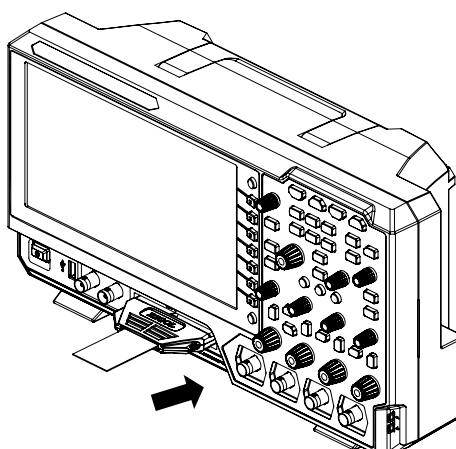

Figure 7 To Connect the Logic Probe
1. Connect the output terminal of the logic probe to the digital channel input terminal on the front panel of the oscilloscope in the correct direction, as shown in Figure 7.